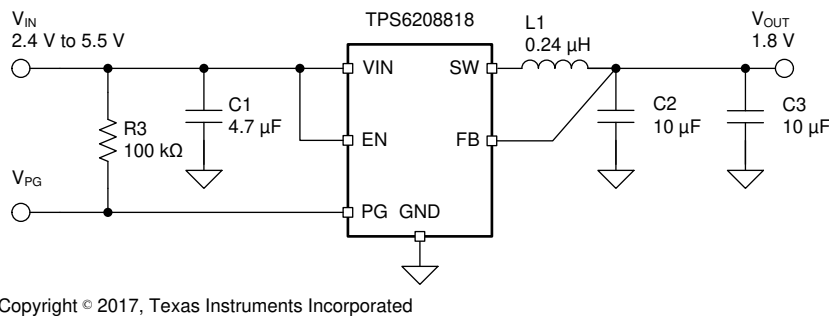

Figure 6. Typical Application of Fixed Output
(1) See Third-party Products disclaimer.
**Table 4. List of Components of Figure 6, Smallest Solution**